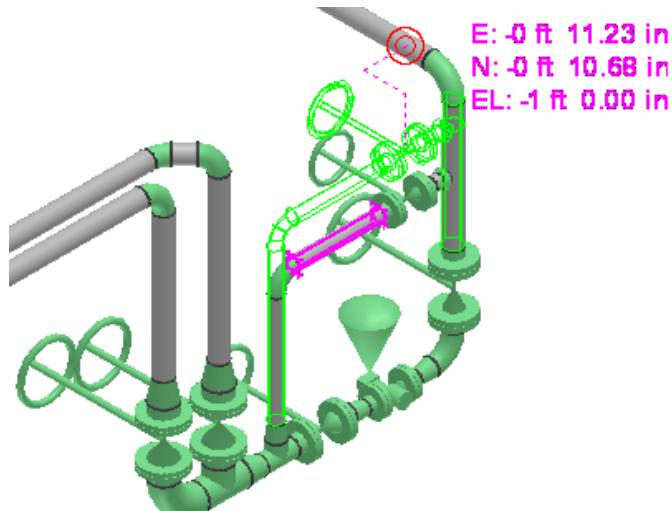

Figure 12.6: Moved Pipe Feature
8. Key in **-1 ft** for **El** on the **PinPoint** ribbon to move and define the position of the pipe straight feature **1 ft** from the centerline of the pipe **400-P**. Before you accept the placement position, the pipe feature after moving resembles Figure 12.6.